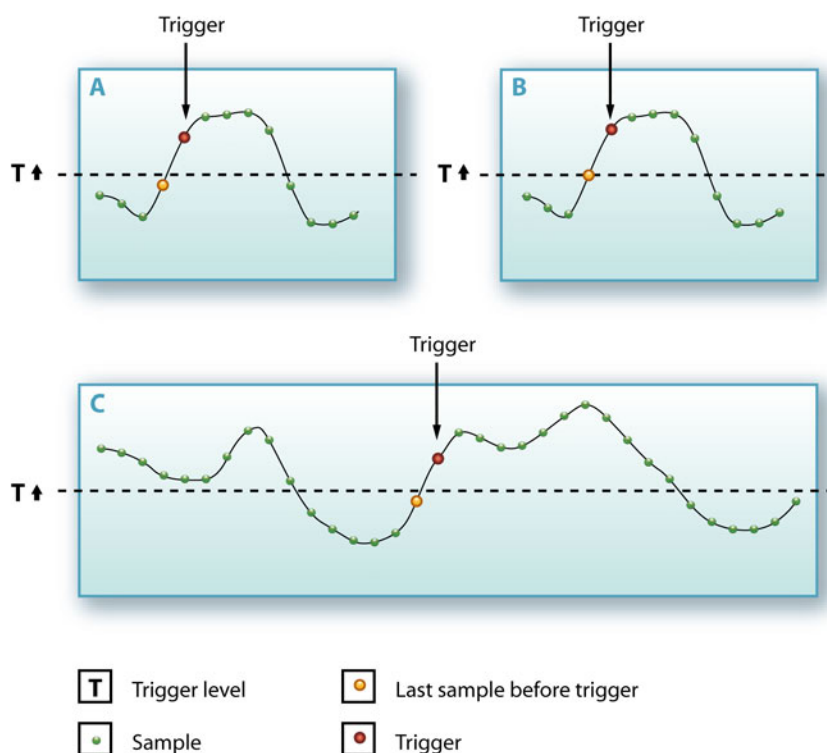

Figure 10.1: Level crossing detector
As trigger mode basic trigger is shown with a specified level (T), and a level crossing in positive direction. In Figure 10.1 (A) the trigger occurs on the first sample after the level crossing. Figure 10.1 (B) shows the situation in which a sample equals the set level. Trigger does not occur until a sample is actually above the required level.
Since the trigger detector requires a level crossing, no trigger occurs when a signal is above the set level when recording starts. This is depicted in Figure 10.1 (C).